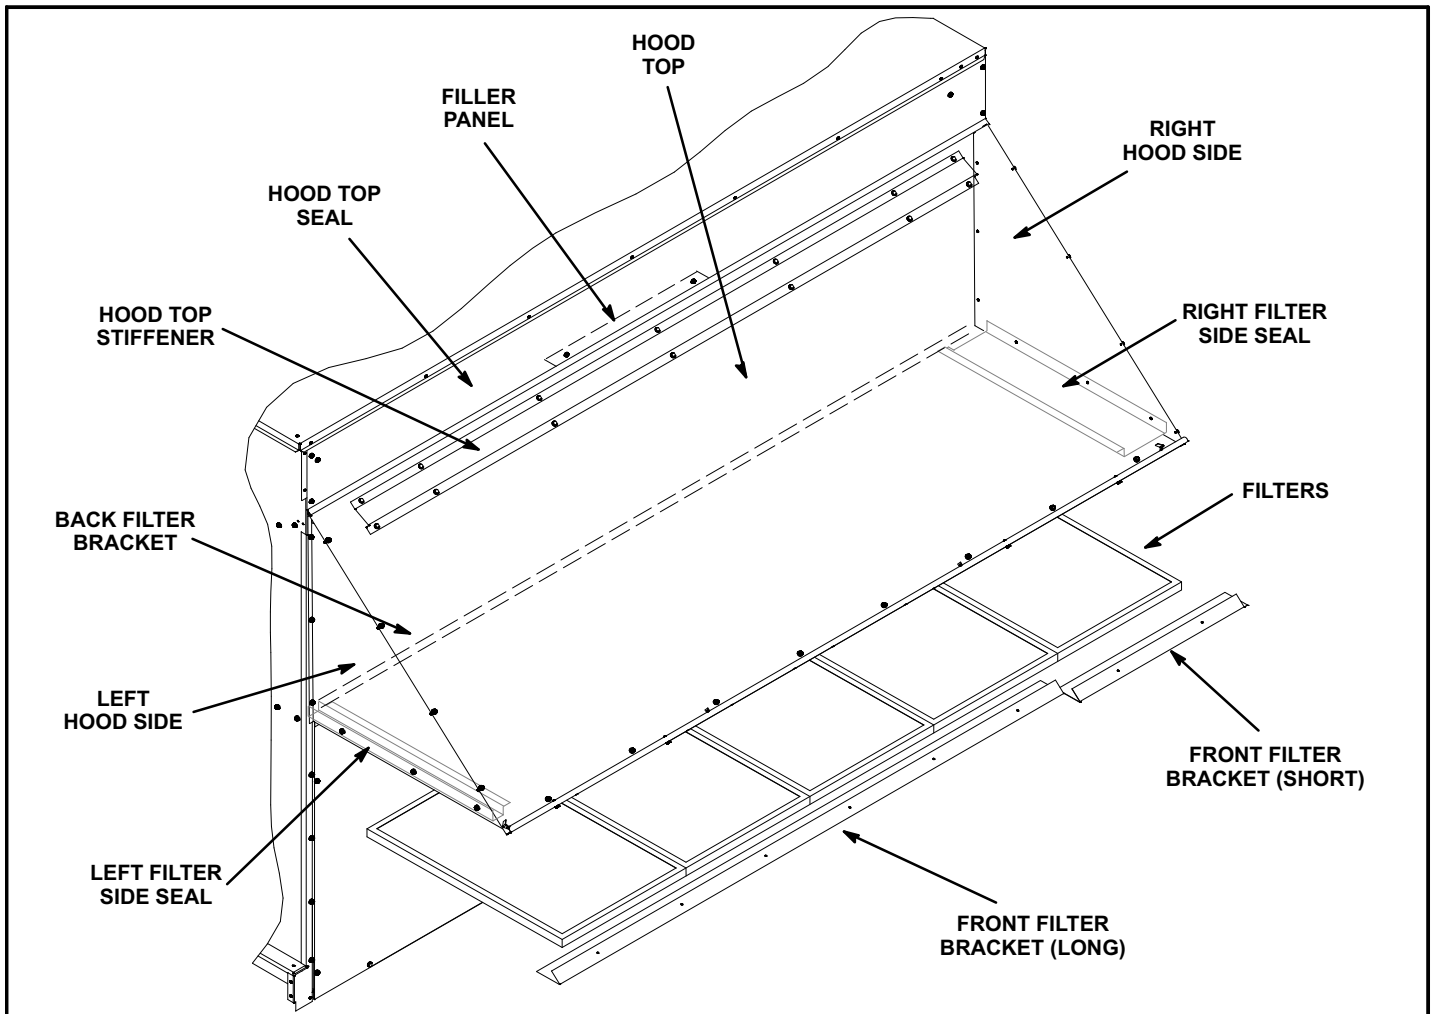

FIGURE 4
- 3- Slide hood top seal under unit cabinet top; remove and retain screws securing top as needed. Secure top seal using retained screws. See figure 4 and 5.
- 9- Secure the longer front filter bracket flush with the left end of the hood top. Install all but last filter. See figures 4 and 7.